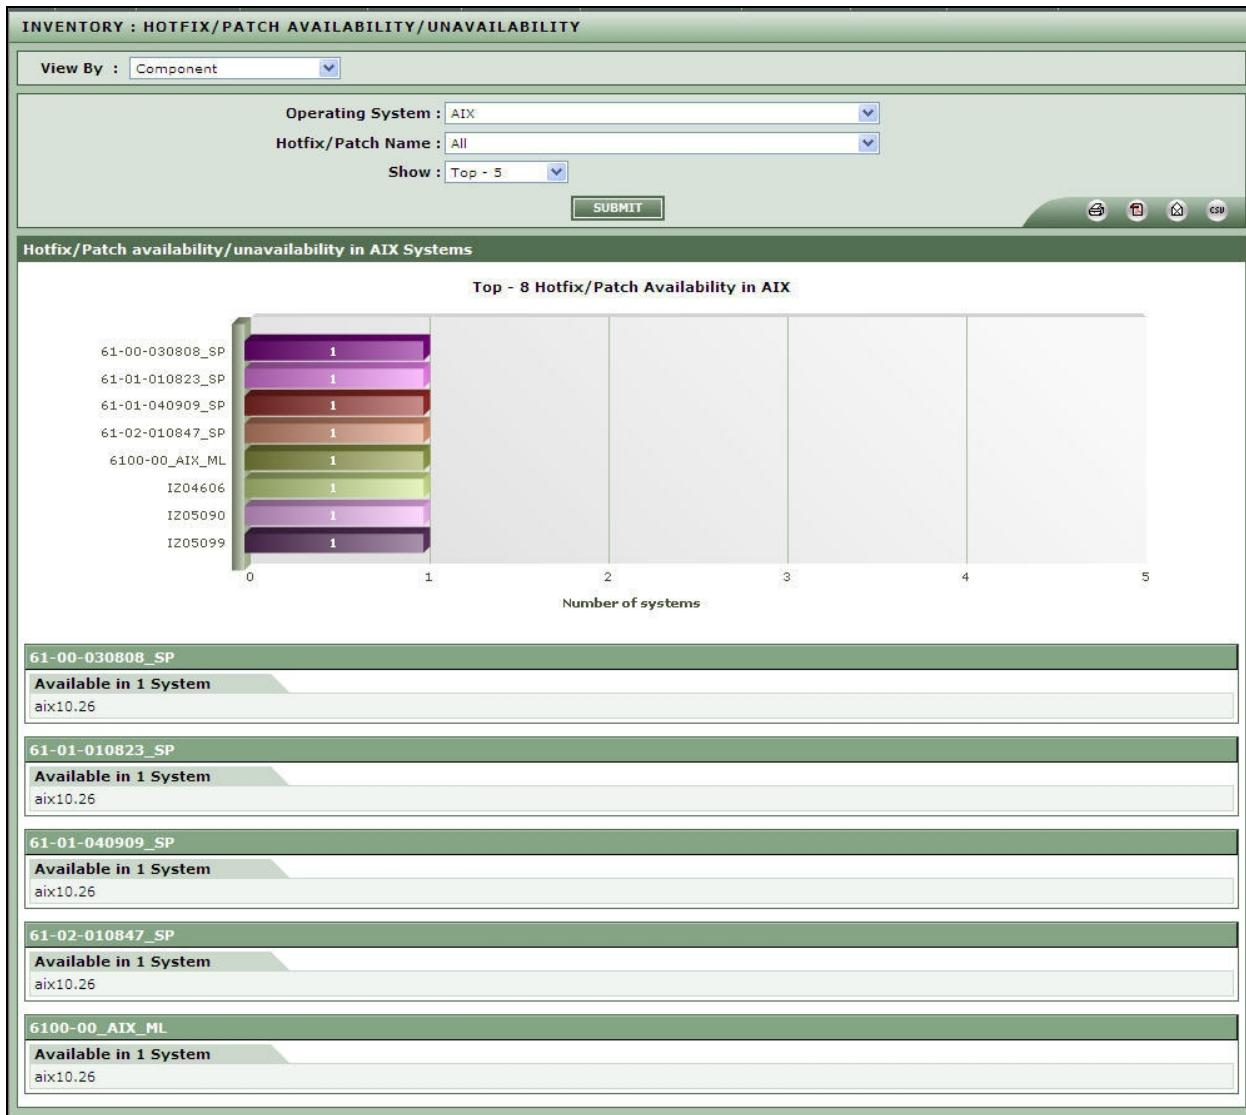

Figure 2.15: Viewing inventory across the hotfixes
1. Select an operating system(OS) from the **Operating System** list. By default, all the discovered operating systems will populate this list, and will be sorted in the ascending order of the OS names; the first OS in the sorted list will by default be chosen from this drop-down list. To override this default setting, use the menu sequence *Settings->Display*, select an OS of your choice from the **Operating System for Software/Service/Hotfix availability page** list, and click the **UPDATE** button therein.
2. Next, select the desired hotfix from the **Hotfix/Patch Name** as shown in Figure 2.15. By default, the **All** option is chosen from this list, indicating that the page reveals the availability of all hotfixes/patches across the environment, by default.
5. Doing so will display a bar graph depicting the number of systems running the chosen OS, on which the selected hotfix is currently available. If the *All* option had been chosen from the **Hotfix/Patch Name** list, then a 'Top-N' bar graph will be displayed here instead, indicating the number of systems on which each of the top hotfixes (in terms of number of installations of the hotfix) have been deployed (see Figure 2.15).